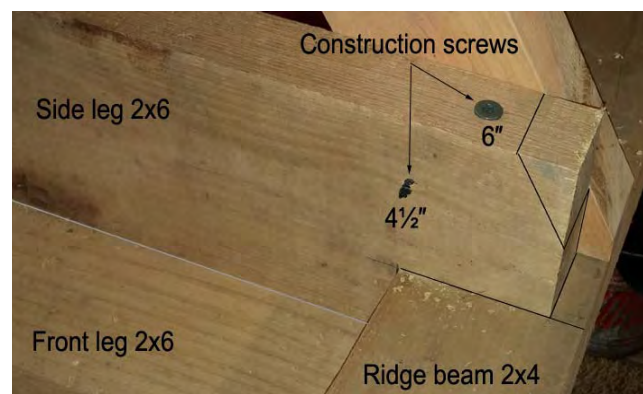

Figure 9. Trial assembly detail
11. Mark the location of the legs on the ridge beam to be used to align the structure in the field. Also mark the top of the leg to be removed as shown in Figure 9.